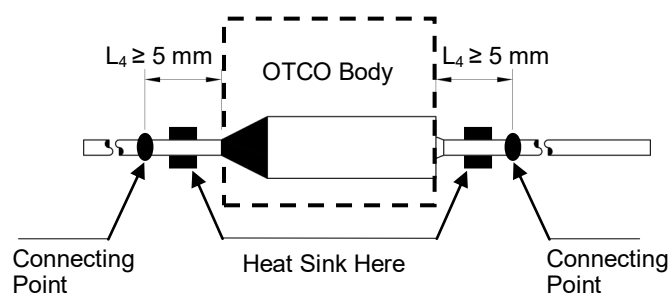

FIGURE RS-2
2. The connection point of the lead shall be greater than 5 mm away from the OTCO body (see L_4 in Fig. RS-2).